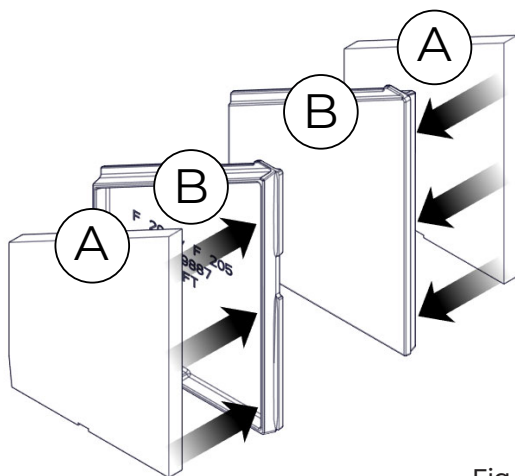

Fig. 7.9
4	Insert the insulation panels (A) on the new side plates (B) (Fig 7.9)